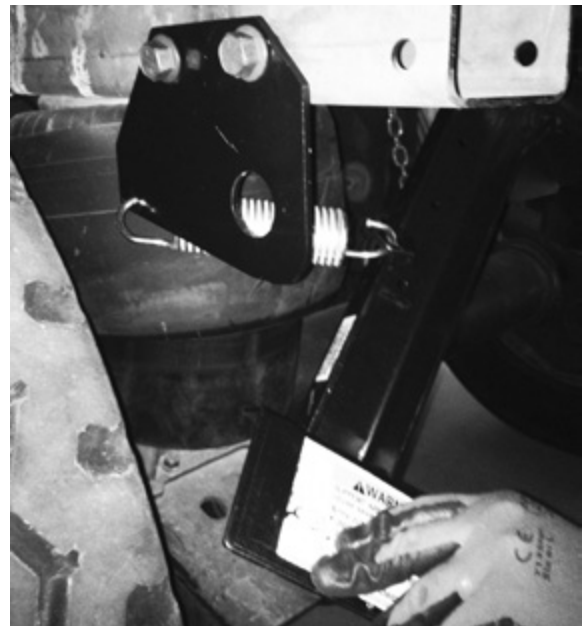

Figure 21: Arm raised above rail for spring installation
3. **Lift** roadside end of the support arm assembly, with attached spring, to roadside shaft bracket (Figure 21) and **insert** the other end of spring into spring hole of the roadside bracket.
**NOTE:** To gain access and attach the spring in Step 3, the top of the roadside arm on the support arm assembly (Figure 21) must be raised up above and inward of the slider rail.